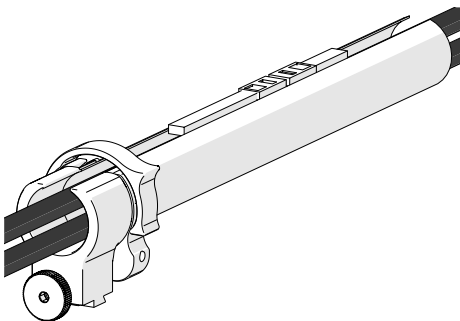

Fig. 180 - Zip opposite end
3. Once the cable is placed the entire length of tube, bring the zipper from the tubes opposite end, meeting at any point in the middle (*Fig. 180*).